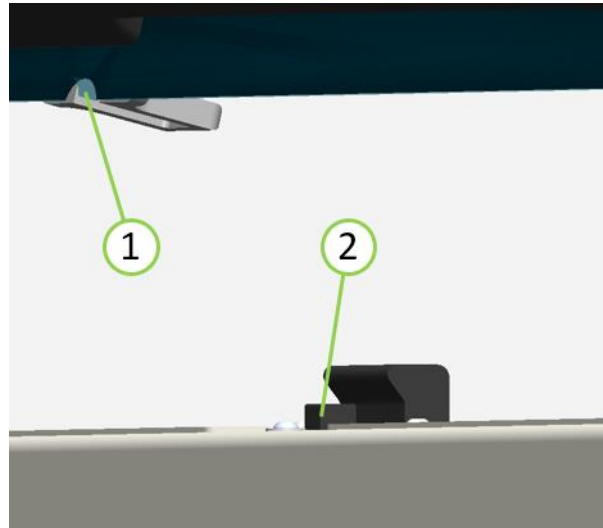

Figure 16: Bypassing the interlock
In this case, the user can bypass the interlock with a screwdriver via the opening (1) on Figure 16 of the main cover by pushing down the spring lock (2) and pulling the main cover upwards.